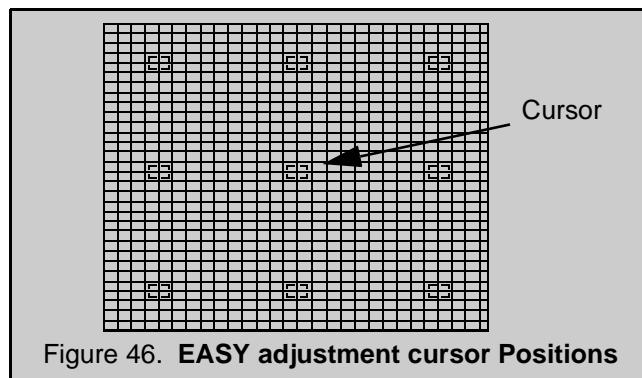

Figure 46. EASY adjustment cursor Positions
10. To move the cursor press MUTE on the remote (cursor blinks), then move the cursor to any of the 9 positions for "EASY" mode (see Figure 46)